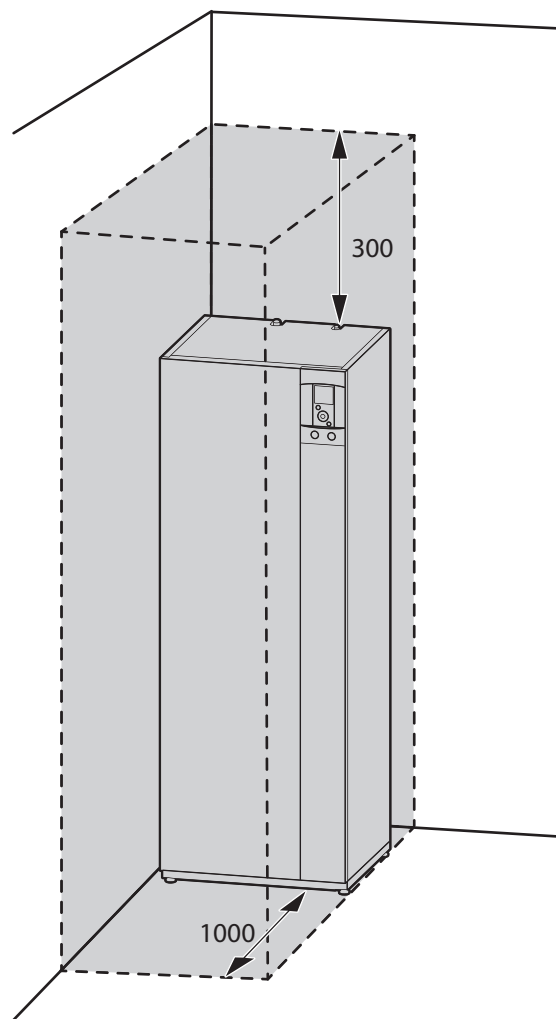

fig. 19 - Minimum installation clearances around the hydraulic unit for maintenance
- To facilitate maintenance and to allow access to the various components, we recommend that you provide sufficient space all around the hydraulic unit (fig. 19).